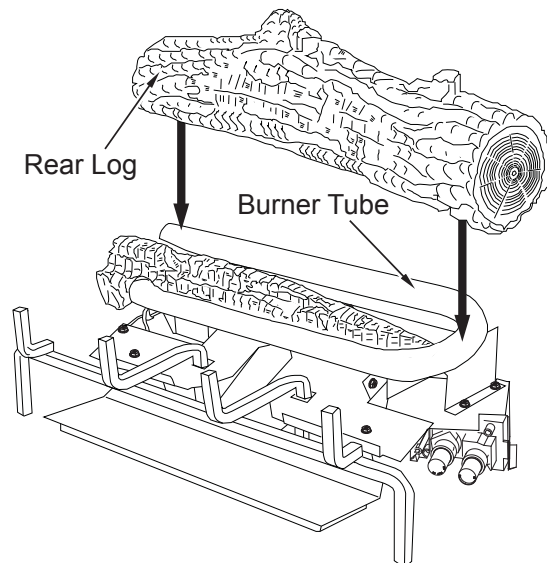

Figure 51 - Installing Rear Log
2. Place the rear log on the base assembly as shown in **Figure 51**. The rear log has grooves in the bottom which will allow the log to sit on the burner and behind the bottom ember log